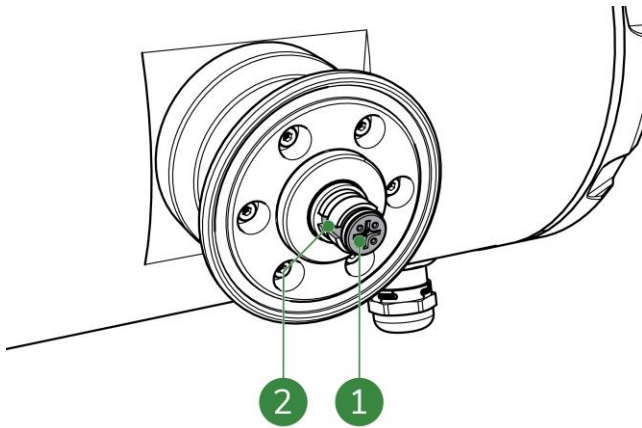

Figure 9-3: Transmitter connection
6. Measure the resistance of the sensor connection pins. The resistance is overload. Measure between the inner and outer connection pin (Figure 9-3, pos. 1 and 2).